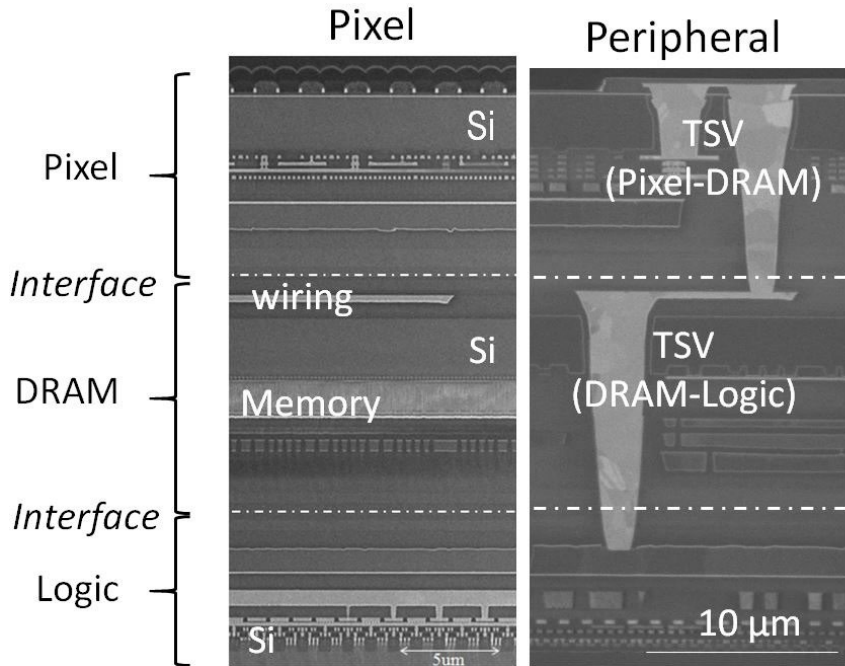

Figure 3 Cross-sectional SEM view of 3-layers stacked CMOS image sensor (By courtesy of Sony)
(3) Development of a 2-layer TSV for electrical connections between wafers to achieve low resistance and low parasitic capacitance (Fig. 3)